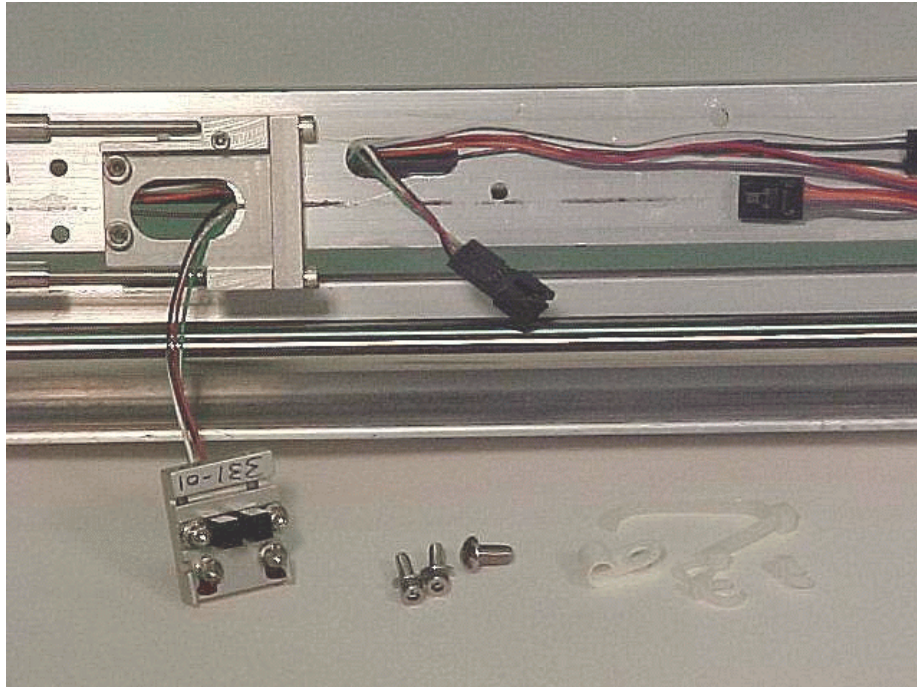

Figure 4-13. Detector Switch Removal #2
6. Carefully remove the switch assembly while feeding the switch plug through the frame. Be careful not to catch the plug on any other wires. (Figure 4-13)